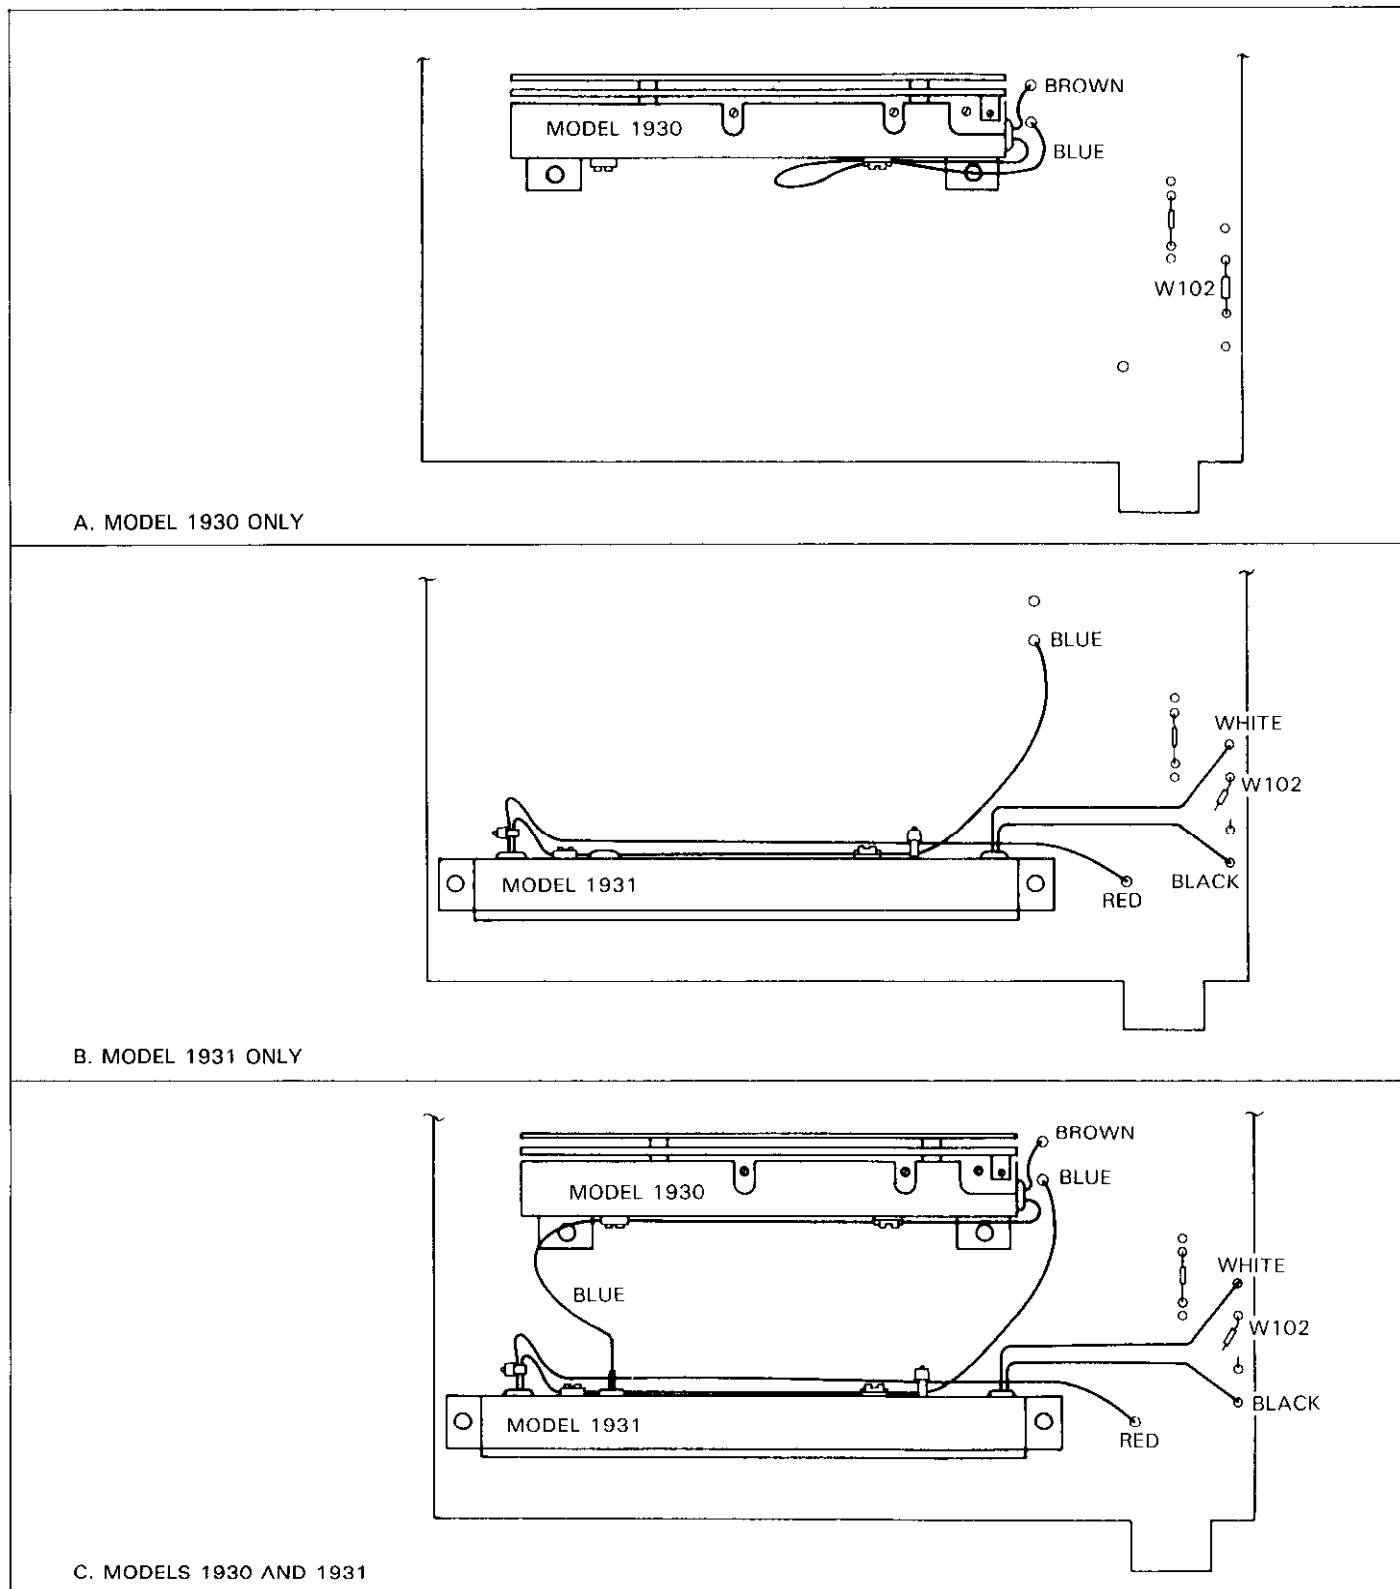

Figure 6-1. Models 1930 and 1931 Installation
2. Plug the Model 1930 into its mating receptacle on the analog board as shown in Figure 6-1 and press the two fasteners into the PC board.
- A. If the Model 1930 is the only option installed, refer to Figure 6-1(A) to connect the wires to the analog board.
- B. If both the Models 1930 and 1931 are installed, refer to Figure 6-1(C) to connect the wires.
Note: The blue wire must be securely clamped to the shield of the Model 1930 as shown in Figure 6-1.
2. Plug the Model 1931 into its mating receptacle on the analog board as shown in Figure 6-1 and press the two fasteners into the PC board.
- A. If the Model 1931 is the only option installed, refer to Figure 6-1(B) to connect the wires.
- B. If both the Models 1930 and 1931 are installed, connect the wires as shown in Figure 6-1(C).
4. Cut out Jumper W102. Jumper location is shown in Figure 6-1. Remember to replace the jumper if the instrument is to be operated with the Model 1931 removed.